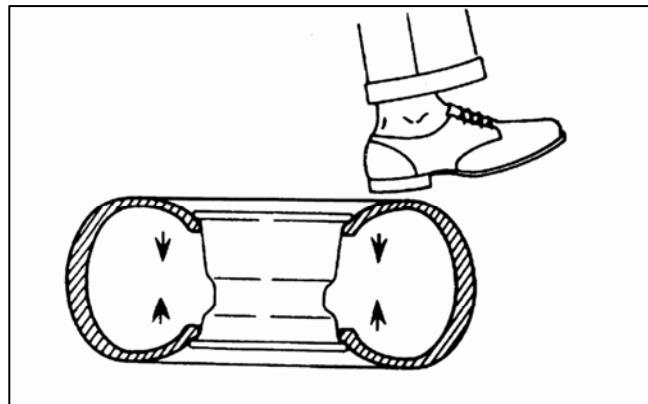

Figure 6-1
- If tire machine is unavailable, lay wheel assembly on ground (valve stem side up) and break the tire bead from the wheel (Figure 6-1).